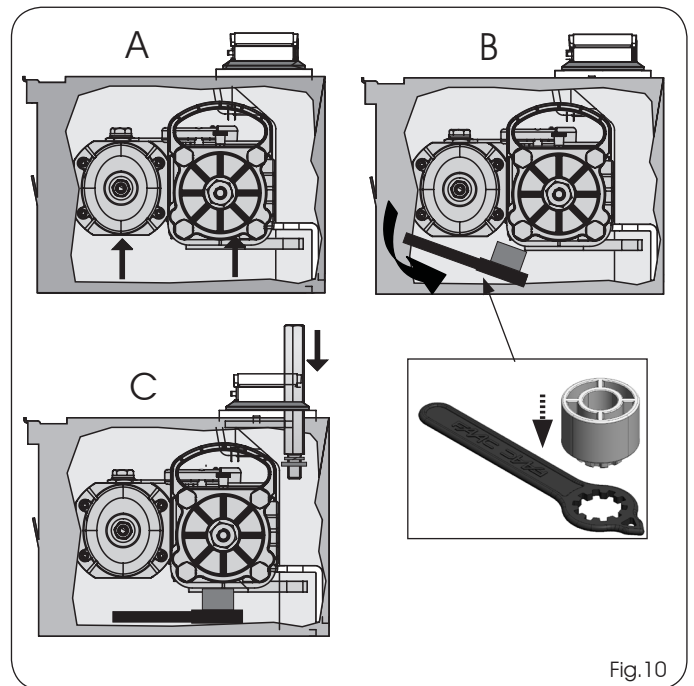
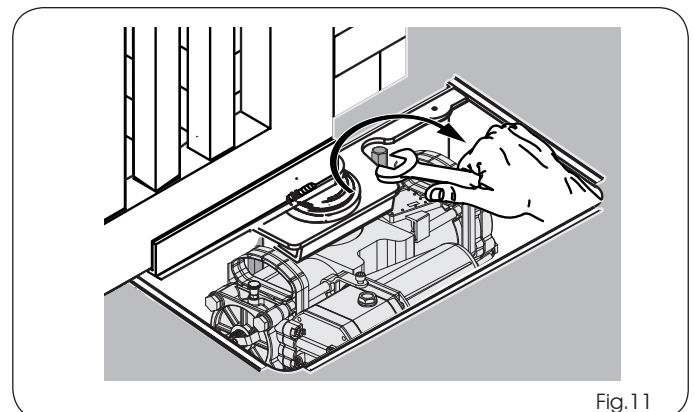

Fig. 10
Fig. 11
9) Raise the operator with its handles (Fig. 10 ref. A), inserting the pinion in the splined collar of the load bearing box. To facilitate the operation, slightly wiggle the operator until coupling takes place.
10) Place the supplied plastic wrench with the spacer under the operator, as shown in figure 10 ref. B, C
12) Insert and tighten the fastening long bolts with the supplied lockwasher as shown in Fig. 10 ref. C, in order to secure the operator to the load bearing box as shown in Fig. 11.